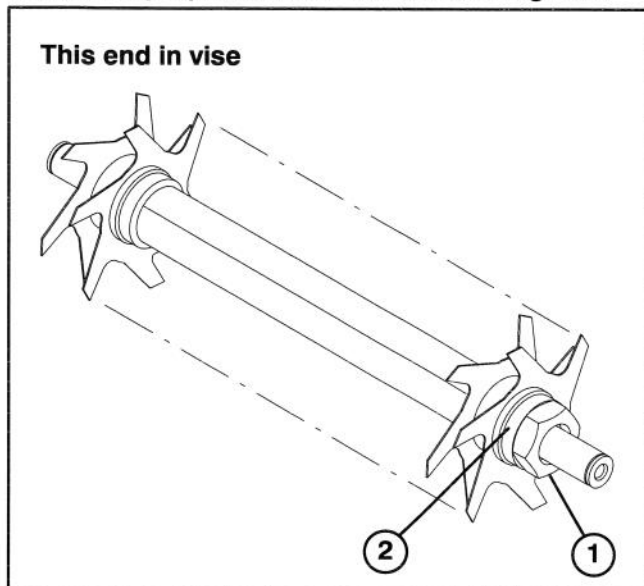

Figure 11
REMOVING DETHATCHER BLADES FROM SHAFT (Fig. 11)
INSTALLING DETHATCHER BLADES (Fig. 11)
5. Install cupped end spacer to shaft (flat end outward) (Fig. 11).